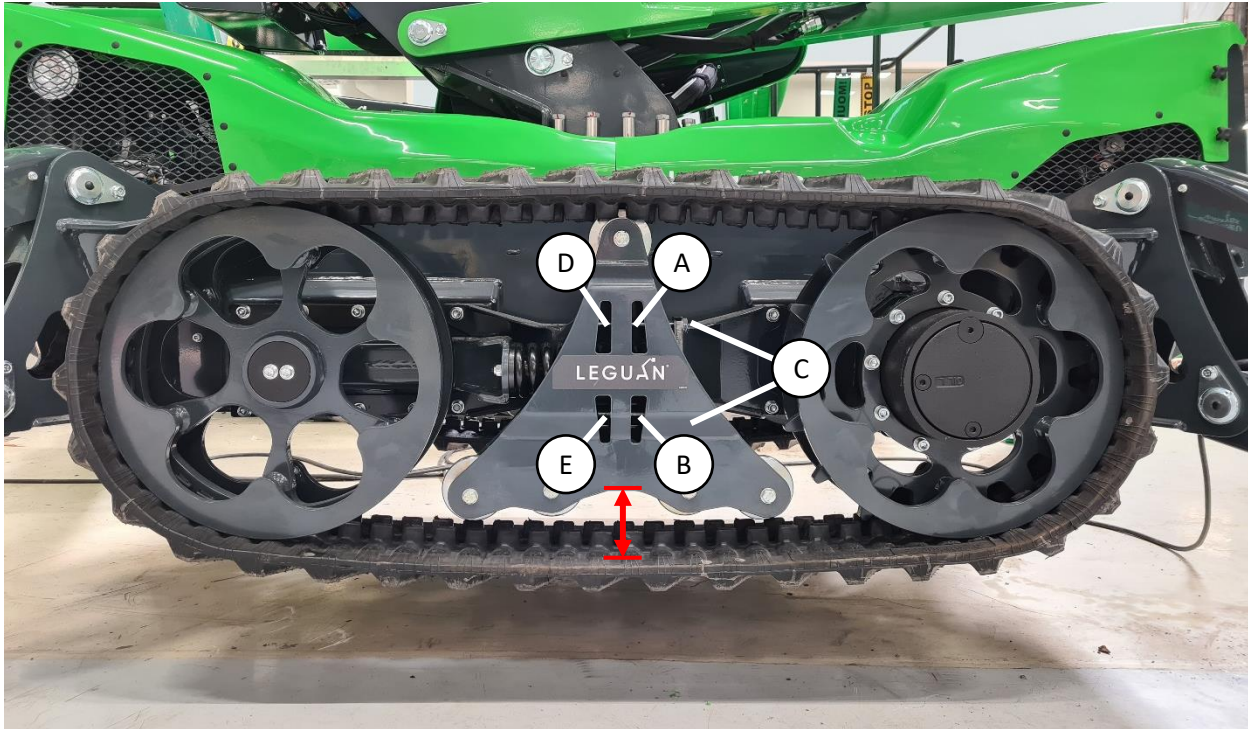

Figure 16. Track tightness adjustment
Raise the access platform off the ground using the outriggers. The tracks should be off the ground minimum 5 cm. The tightness is correct if the gap between the track and the track frame is the same from end to end (marked with red lines in figure 16). The correct gap is 85-90 mm.
The track is tightened with a preloaded spring. To tighten the track, loosen the nuts marked (A) and (B) in figure 16. Then tighten nuts D and E and hold bolts C (or vice versa). This pulls the bolts (figure 16, (C)) and the adjustment plate towards the middle of the track and moves the front track wheel forwards. Tighten the nuts just enough so that the track straightens in relation to the track frame and that the gap is 85-90 mm. Tighten both nuts evenly. After the adjustment tighten the nuts A and B.